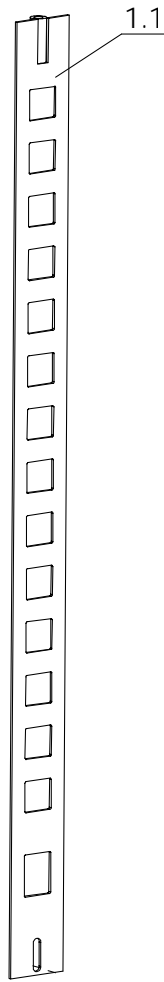

Fig. 2-7-1
2. Slide ladder bar down behind yoke inside column. ENSURE that ladder bar slides through grooves in Cross Beam Position Blocks. Note orientation fig. 2-7-1 with the slot being at the bottom of the ladder bar. Make sure the control post is plumb. Use shims provided in hardware kit if needed. **Ensure column is pushed flush against cross beams when level. This is critical.**